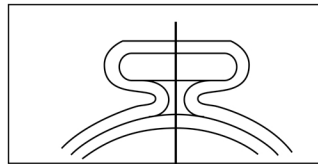

Fig. 5: Full ear closure required
3. **IMPORTANT:** For proper installation of PEX stainless steel clamps, full ear closure is required. Visually inspect clamp for correct closed ear form. (Fig. 5)